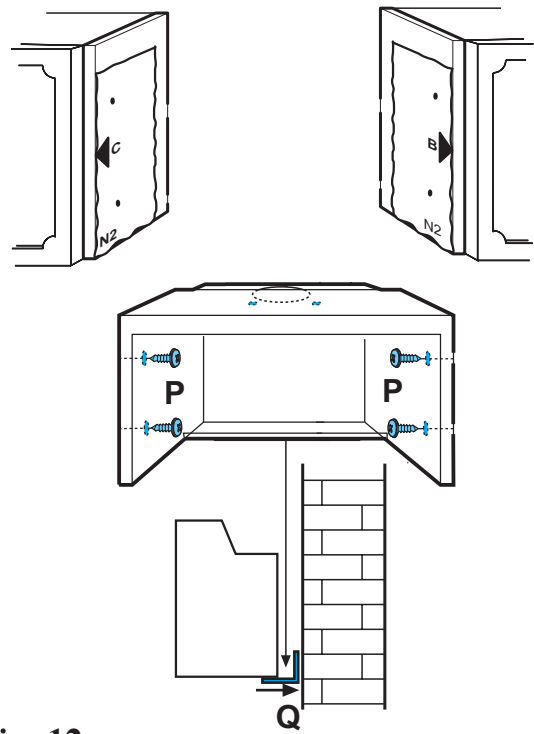

Fig. 12
- Fasten the cooker hood with 4 screws (Fig. 12 ,P), place the connection ring and discharge pipe (or deflector if supplied) to the cooker hood outlet (see “Use” section), mount the lower bracket (Fig. 12-13,Q) to the cooker hood with two screws and plastic washers (Fig. 13,T).